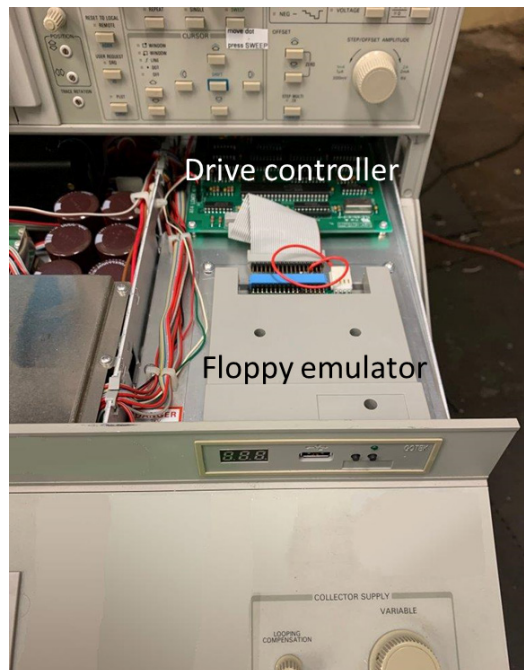

Fig. 3 Tektronix 371A drawer unit in a forward position with the installed floppy drive emulator
- 3) Slide the drawer unit forward (out of) the main chassis as shown in Fig. 3. This requires some force to disengage the electrical connectors located at the rear of the drawer unit.
After making the cable adaptor and reprogramming, the FDE should be mounted on the floppy drive mounting plate. In turn, these should be reinstalled on the CT's drawer unit and the ribbon cable should be attached as previously shown in Fig. 3.